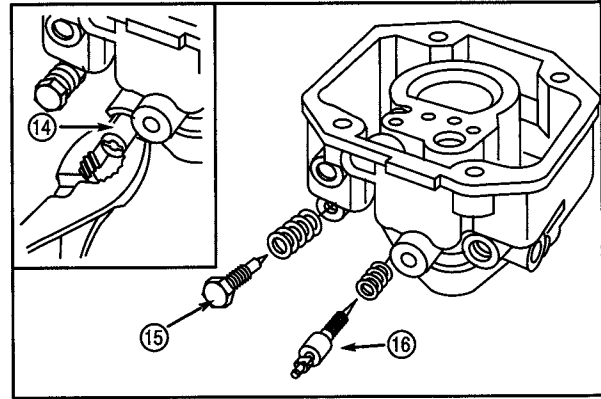

Fig. 101
If equipped, remove adjustment limiter cap (14) with a pliers (inset) before removing idle mixture screw, **Fig. 101.**
8. Remove idle mixture screw (16) and spring.
9. Remove fuel bowl drain screw (15) and spring.